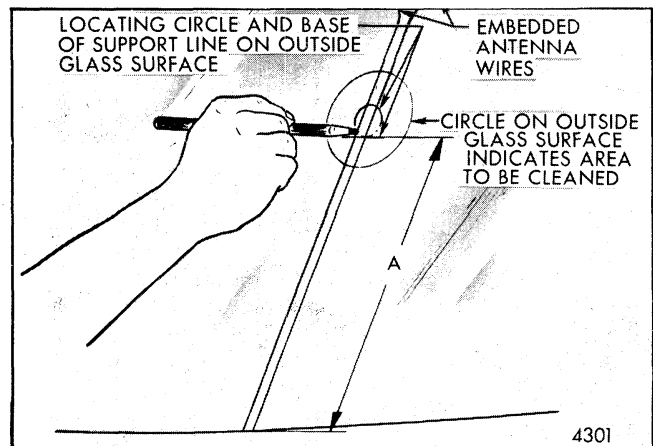

Fig. 11-17-Locating Bonded Rear View Mirror Support on Glass
1. Determine rear view mirror support position on windshield. Support is located at center of glass at one of following dimensions from base of glass to base of support (dimension "A", Fig. 11-17):
2. When location is determined, mark location on outside of glass with wax pencil or crayon. Also make larger diameter circle around the mirror support circle on the outside glass surface (see Fig. 11-17).